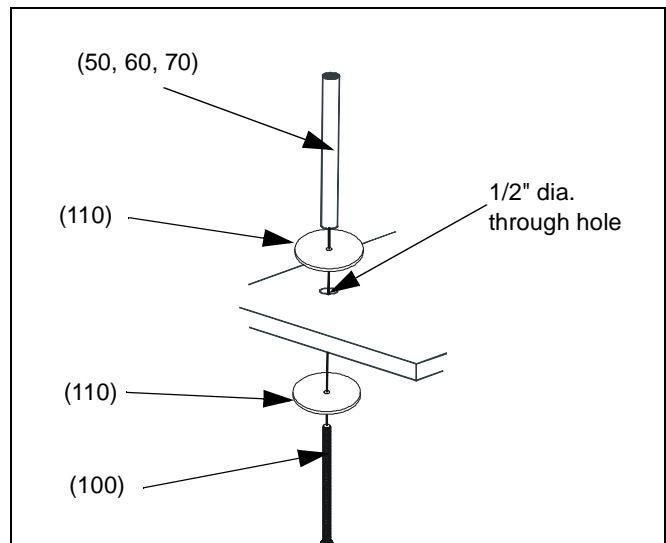

Figure 2: Grommet installation
1. Locate desired point on surface where mount is to be installed. (see Figure 2)
3. Slide one 3/8-16 x 6" HHCS (100) upward through lower grommet (110), through hole in surface and through upper grommet (110).
4. Place pole (50, 60, 70) onto upper grommet (110) aligning threaded hole in pole bottom with threaded end of 3/8-16 x 6" HHCS (100).
5. Thread 3/8-16 x 6" HHCS (100) into pole bottom (50, 60, 70) and tighten to secure pole and grommets (110) to surface.
6. Add pipe cap (40) to top of pole.
1. Assemble pole (50) to base (40) using one 3/8-16 x 1" FHCS (90). (see Figure 2)